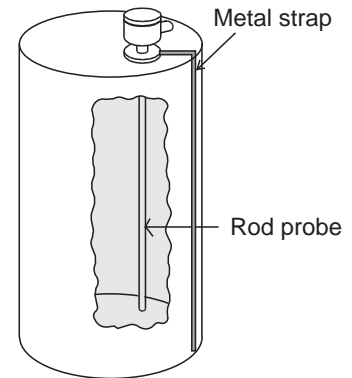
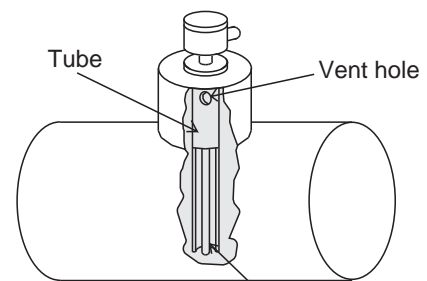

Fig. 1
Fig. 2
2. If the tank is not electrically conductive, a metal strap should be added outside of tank wall (fig. 1) for either liquid or non-liquid medium. Or place a metal tube, usually made out of stainless steel, around the rod (fig. 2) for liquid medium. This metal tube should come with a vent hole at top of the tube to allow the medium to go up inside of the tube.
3. If the container is irregular shaped, such as a cylindrical, and the medium is liquid with low viscosity, the rod should be place inside a metal tube with vent hole at the top. (fig. 2)